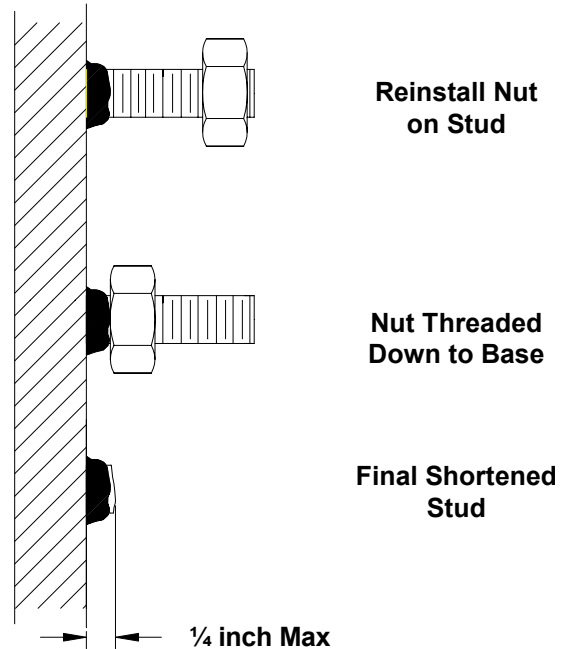

Figure 2 Stud Removal
- 6) The studs, which held the old inspection cover in place, will need to be removed (shortened). The best way to shorten these studs is to place the nuts (removed in Step 5) onto the exposed stud (see Figure 2). Tighten the nut down onto the stud with a wrench or socket until it threads flush with the weld base of the stud. Continue to tighten the nut until the stud breaks. Providing the remaining stud is not higher than $\frac{1}{4}$ inch, no additional conditioning of the stud base is necessary. If the remaining base of the stud is still higher than a $\frac{1}{4}$ inch, file down its height until the top is no more than a $\frac{1}{4}$ inch above the plate.